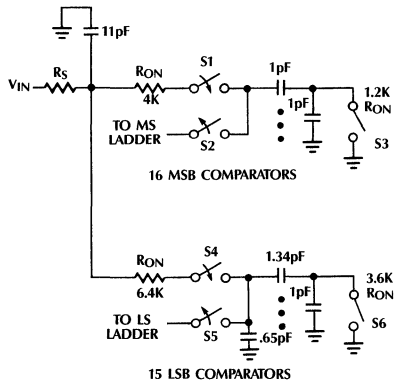

Figure 6. Converter Equivalent Input Circuit
The equivalent input circuit for the converter is shown in Figure 6. When the conversion starts in the T/H mode (WR) in the WR-RD mode or RD1 in the RD mode) S1, S4 and S6 close and S3 opens. This period is known as the acquisition period where the MSB flash converter tracks the input signal and the LSB flash converter samples it. During this period, V_{IN} is connected to the 16 MSB and 15 LSB comparators. Thus 38 pF of input capacitance must be charged up through the combined R_{ON} resistance of the internal analog switches plus any external source resistance, R_S . In addition, there is a stray capacitance of approximately 11 pF that needs to be charged through the external source resistance R_S . This period ends in the WR-RD mode when WR1 or by an internal timer in the RD mode. At this point S1 and S4 open and the analog input at V_{IN} is no longer being sampled; thus during this time the analog voltage on V_{IN} does not affect converter performance.